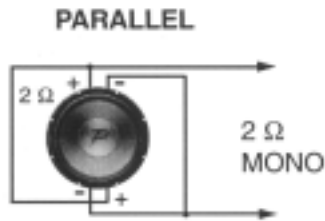

Fig. 1
**Parallel** wiring for a single, dual-voice coil 4-Ohm woofer in a monaural system will result in a total impedance load of 2 Ohms at the amplifier, (See Fig. 1) if your amplifier is rated to drive 2 Ohms in bridged or one-channel operation. If each of two dual-voice coil 4-Ohm woofers are connected in parallel and then wired to